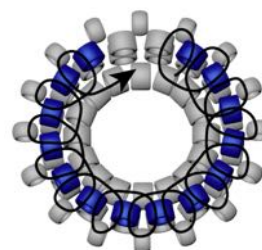

figure 6
6. Continue stitching in this manner, however for the next 14 stitches, you will only be adding one **cylinder B** and then passing through the 15° and cylinder bead already in place from the previous stitch. **(figure 6)**